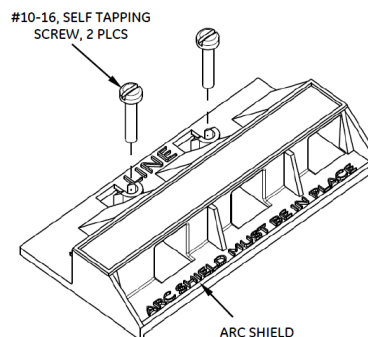

Figure 2. : Arc Shield THSHLD1 for Safety Switch
Arc Shield to be mounted on Switch base by Using new or old (saved hardware) qty. (2) #10-16 screws with torque 15 In-lbs as shown in Fig2.